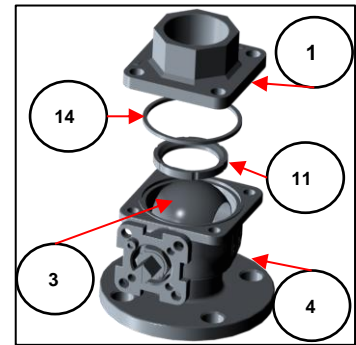

Figure 4-4
4.1.6 Remove the ball seal (Item 11) from the end cap (item 1). (Figure 4-4)